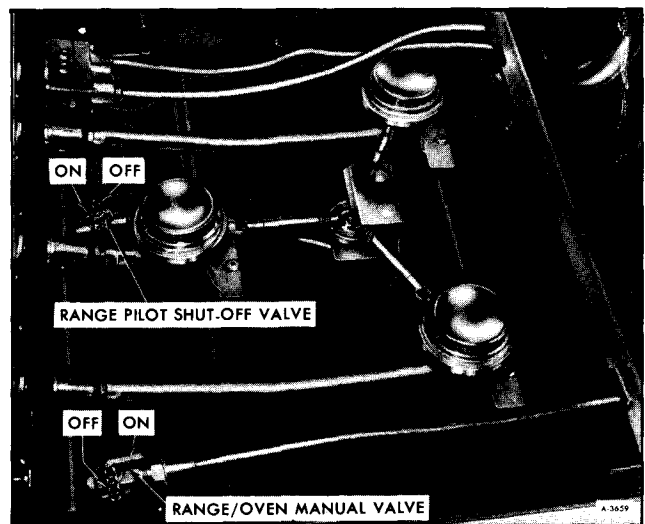

Figure 2—Range/Oven LP Gas Valves
4. Lift cook top panel and turn range/oven manual valve and range pilot shut off valve to ON position (See figure 2).